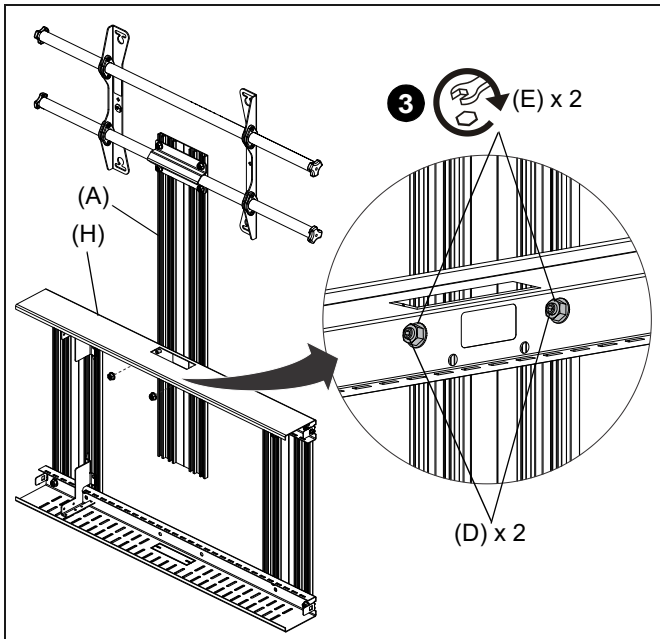

Figure 9
3. Re-tighten the loose M8 x 20mm screw (D), then secure the storage box (H) to the upright extrusion (A) using two M8 flange nuts (E). (See Figure 9)